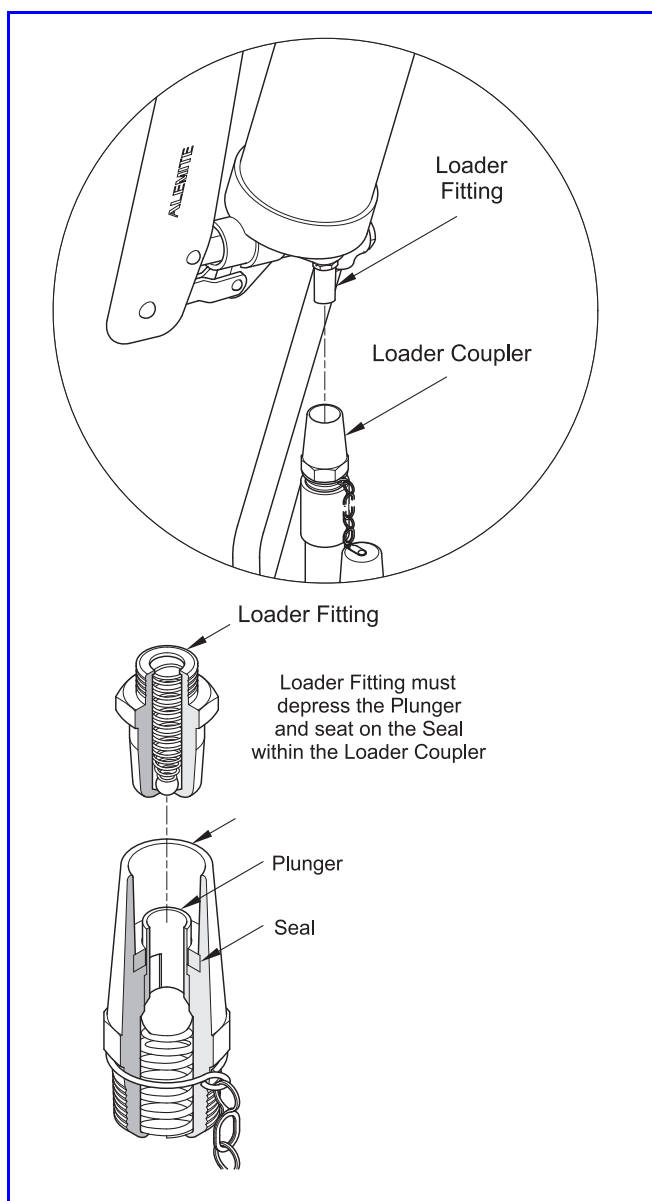

Figure 6 *Loader Fitting and Loader Coupler Section View*
Each gun is also equipped with a Loader Fitting that allows filling directly from a hand-operated loader pump. See **Figure 6**.
5. Seat the Loader Fitting into the loader coupler. See **Figure 6**.